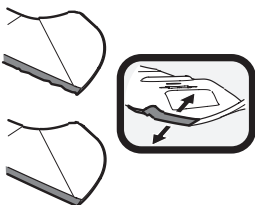

Figure 51
1. To properly sharpen the cutting blades, remove equal amounts of metal from both ends of the blades along the cutting edges, parallel to the trailing edge, at a 25° to 30° angle. Always grind each cutting blade edge equally to maintain proper blade balance (Figure 51).